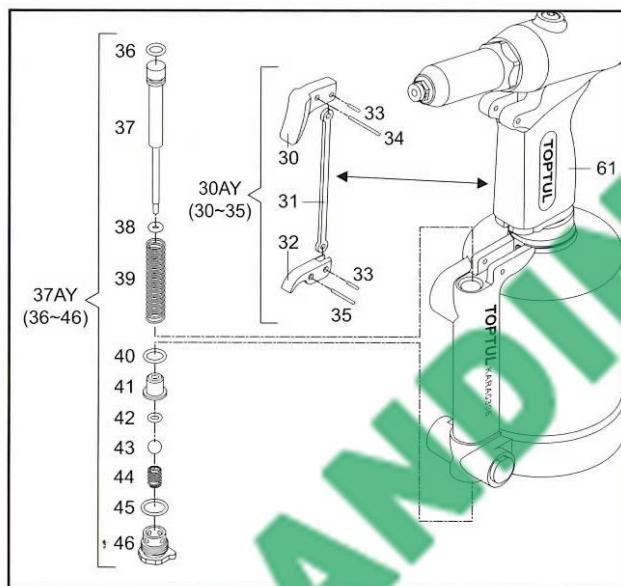

Fig.10
- When doing the above **Replace the O-Rings, Back-Up Rings, Return Springs and Hydraulic Oil**, it is suggested to do this replacement at the same time. Follow the **Replace the O-Rings, Back-Up Rings, Return Springs and Hydraulic Oil** Steps 1 - 6 to separate the Oil Cylinder (12) from the Air Cylinder (25). (Fig.10)
- The Lever Pin (35) has been dismantled in the above step, then dismantle the Trigger Assembly (30AY) by using a suitable diameter pin carefully to punch out the Trigger Pin (34) and lower Link Pin (33), finally pull out the Trigger (30) connected with Trigger Link (31) and upper Link Pin (33) from the upper side of Grip (61). Check and replace any worn parts of the Trigger Assembly (30AY).
- Finally dismantle the Valve Assembly (37AY) by unscrewing Valve End Cap (46), carefully take out Valve Assembly (37AY) from two ends, check and replace any worn parts of the Valve Assembly (37AY), such as o-rings, springs, etc.
- Firstly reverse above steps to reassemble Valve Assembly (37AY), then plug the Trigger (30) connected with Trigger Link (31) and upper Link Pin (33) into the upper side of Grip (61), and punch the Trigger Pin (34) and lower Link Pin (33) into the original pin holes, then follow above step to reassemble the Trigger Assembly (30AY).